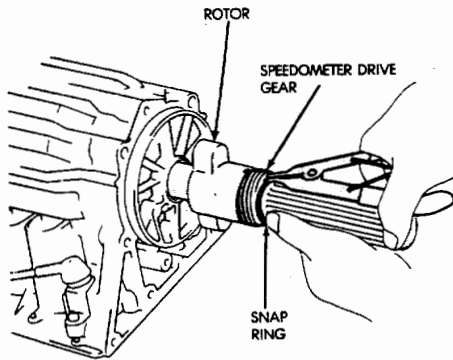

Fig. 5 Removing Speed Sensor And Speedometer Drive Gear
(10) Remove the speedometer drive gear snap ring and remove the gear and gear spacer if equipped (Fig. 5).